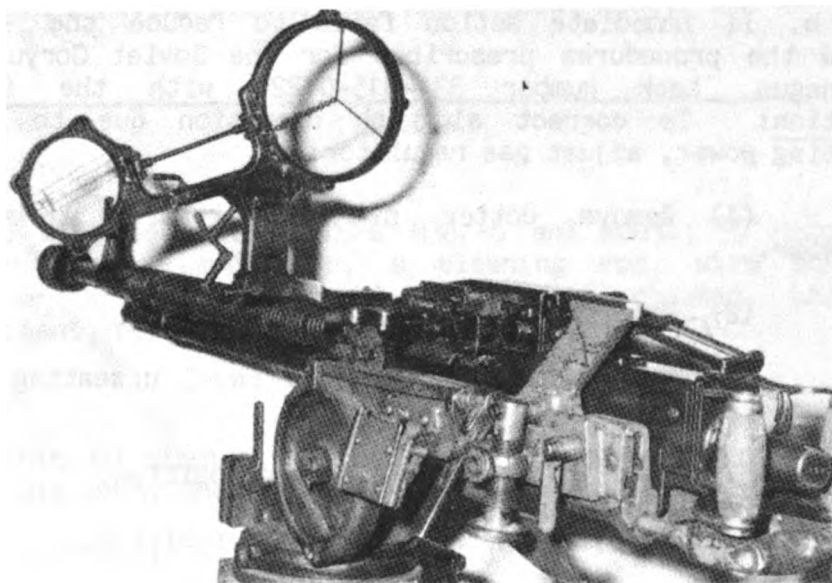

Figure 5
b. Load within 60 seconds: (See fig. 5.)